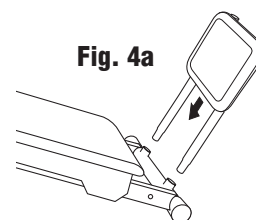

Fig. 4a
4. Locate the holes at the bottom of the Right and Left Rails on the Front Crossbar. See Fig. 4a.